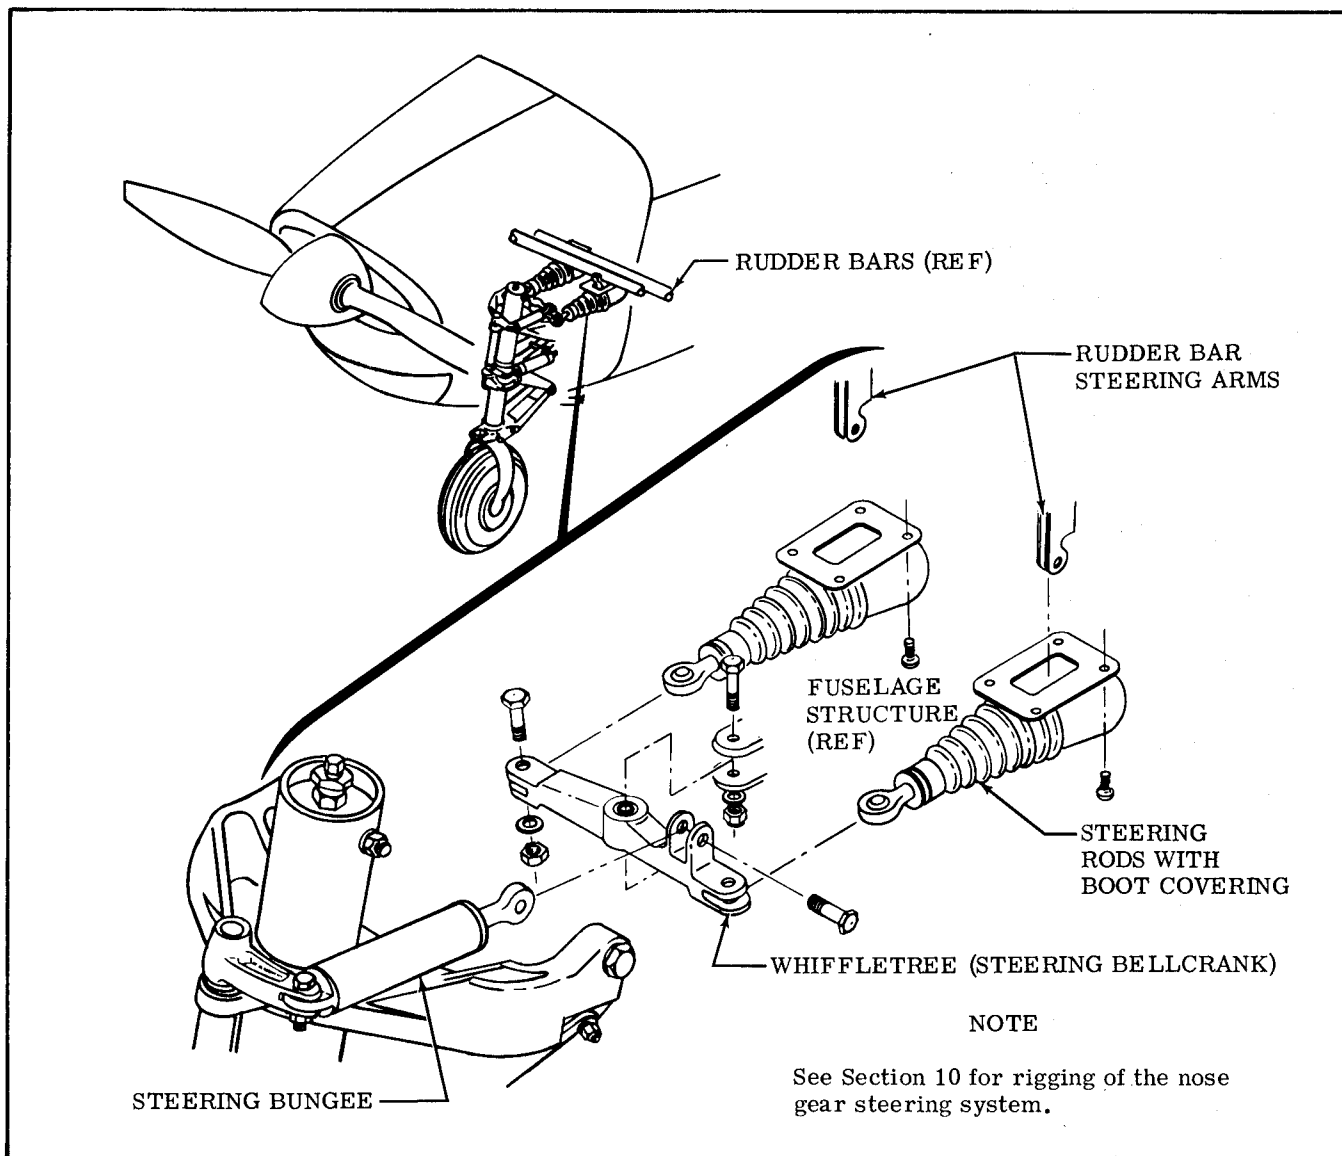

Figure 5-18. Nose Wheel Steering System
**5-91. REMOVAL AND INSTALLATION.** Figure 5-18 shows details of the nose wheel steering system and may be used as a guide for parts replacement.